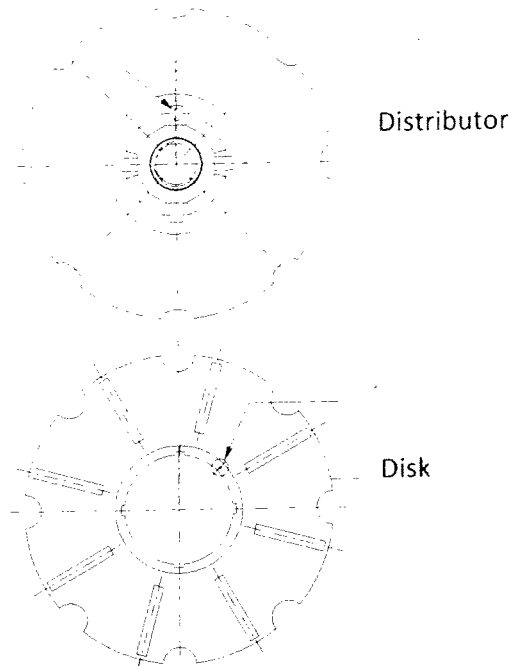

Figure 6.9
- 8) Insert the **disks**. The disks can be inserted in the distributor only in one way. As shown in Fig. 6.9, over the distributor is marked a big "0" that must be aligned with "0" marks of the bowl body and sliding piston, and a small "o" which indicates the angular position of disks insertion. The disk must be inserted in such a way that the small slot (1) made on the internal upper edge of the disk is at the right of the distributor fin marked with "O".